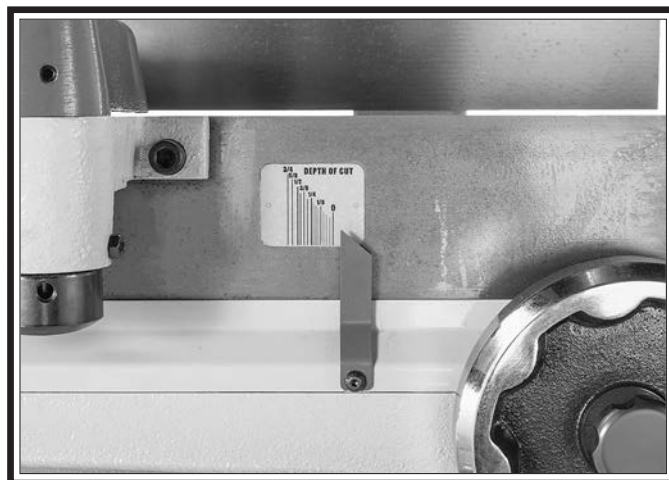

Figure 26. Model SB1113 depth scale.
1. Loosen infeed table lock and rotate handwheel until depth scale on front of jointer (see **Figure 26**) indicates desired depth of cut.